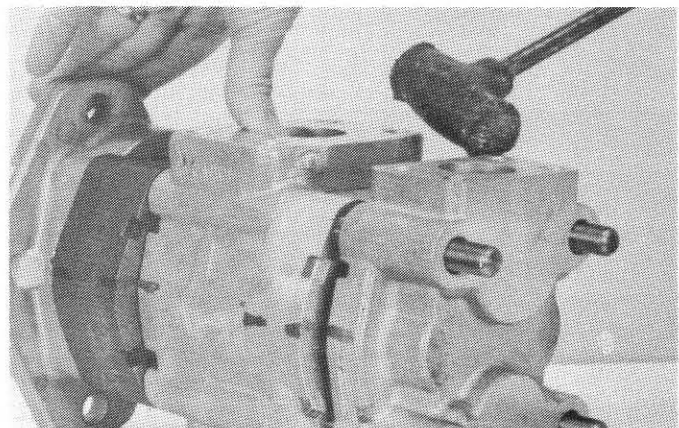

FIG. 4
6. Remove the pump from the vise. Use a plastic hammer and tap connector bosses to loosen cover plate (5). (Fig. 4)